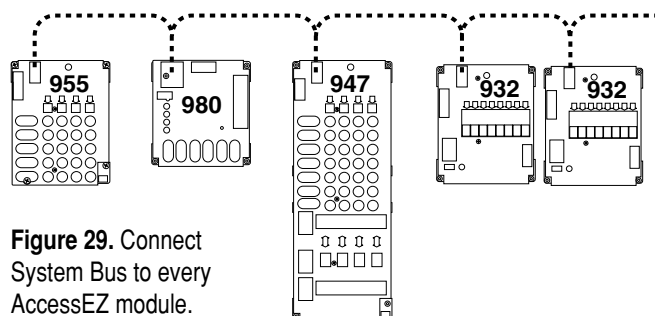

Figure 29. Connect System Bus to every AccessEZ module.
2. Starting at one end of your system, mate one plug of the system bus cable with either of the 4-pin headers in the location marked SYSTEM BUS on each module as shown in Figure 29. If one cable is not long enough, or if you want to make a branch from your cable run, you may begin another run by plugging it into the vacant System Bus header. Otherwise, that header may be left vacant.